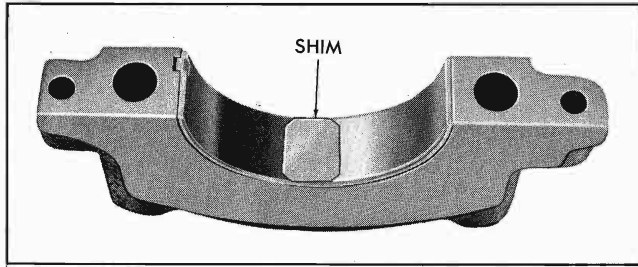

Fig. 6-64 .002 Shim Positioned in Cap for Checking Bearing Clearance
a. Place .002" brass shim $\frac{1}{2}$ " wide by 1" long in main bearing cap with new standard bearing and install cap, pulling up bolts to specified torque. Refer to Fig. 6-64 for position of shim in cap.